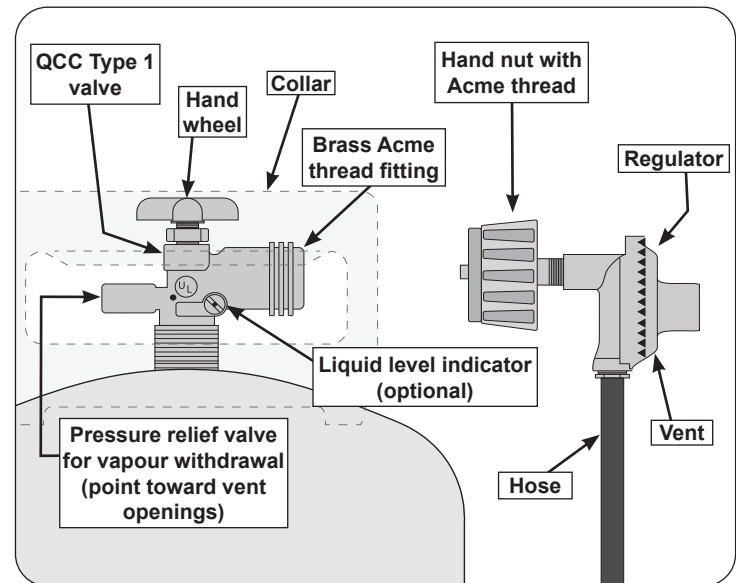

Fig. 6-1 Type I Acme thread coupler
- d. The cylinder used must include a collar to protect the cylinder valve. The cylinder supply system must be arranged for vapour withdrawal. See Fig. 6-1.
- e. When used with a cylinder, the gas supply system must be used with a pressure regulator. The pressure regulator and hose assembly (**not supplied**) used must match the specification for Type I by ANSI Z 21.58/CGA 1.6 and must comply with UL 144 as a part of the self-contained LP gas supply system (see Fig. 6-1).
**To disconnect:** Turn the hand nut counterclockwise until detached (Fig. 6-1).